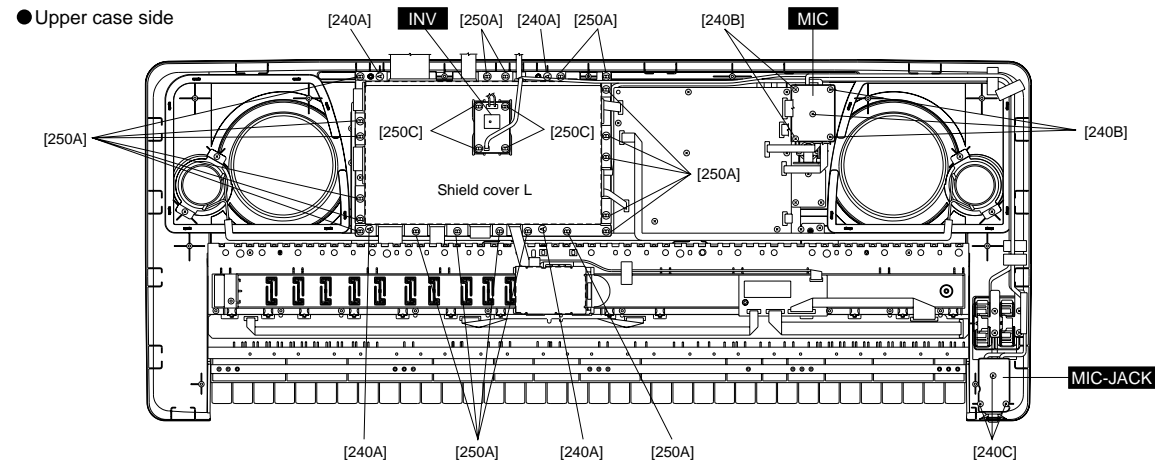

Fig.2
2-2 Remove the four (4) screws marked [240A] and the screws (PSR-740: 20pcs, PSR-640: 11pcs) marked [250A]. The shield cover L can then be removed. (Fig.2)
3-2 Remove the four (4) screws marked [250C]. The INV circuit board can then be removed. (Fig.2)
4-2 Remove the five (5) screws marked [240B]. The MIC circuit board can then be removed. (Fig.2)
5-2 Remove the three (3) screws marked [240C]. The MIC-JACK circuit board can then be removed. (Fig.2)